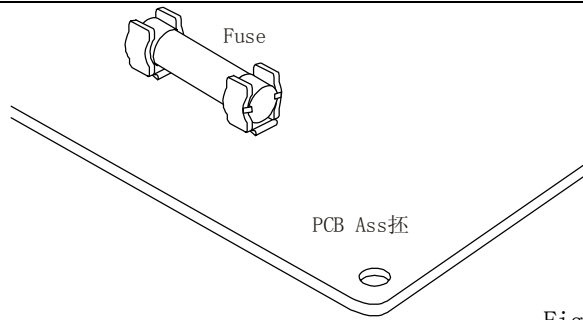

Fig. 1
- 1) Remove the PCB ASS'Y from the electrical component box..Then pull out the fuse from the PCB ASS'Y (Fig.1)